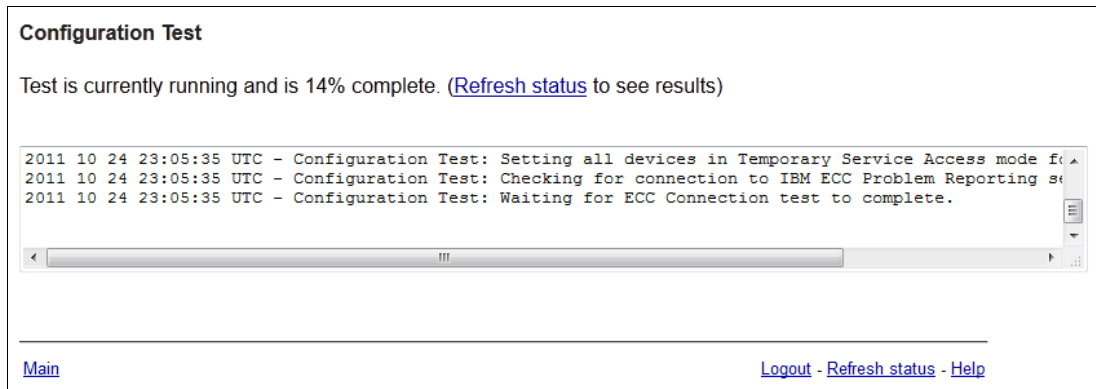

Figure 6-23 RSM Run configuration Test
24. Click **Refresh status** to see the progress of the test as shown in Figure 6-23.